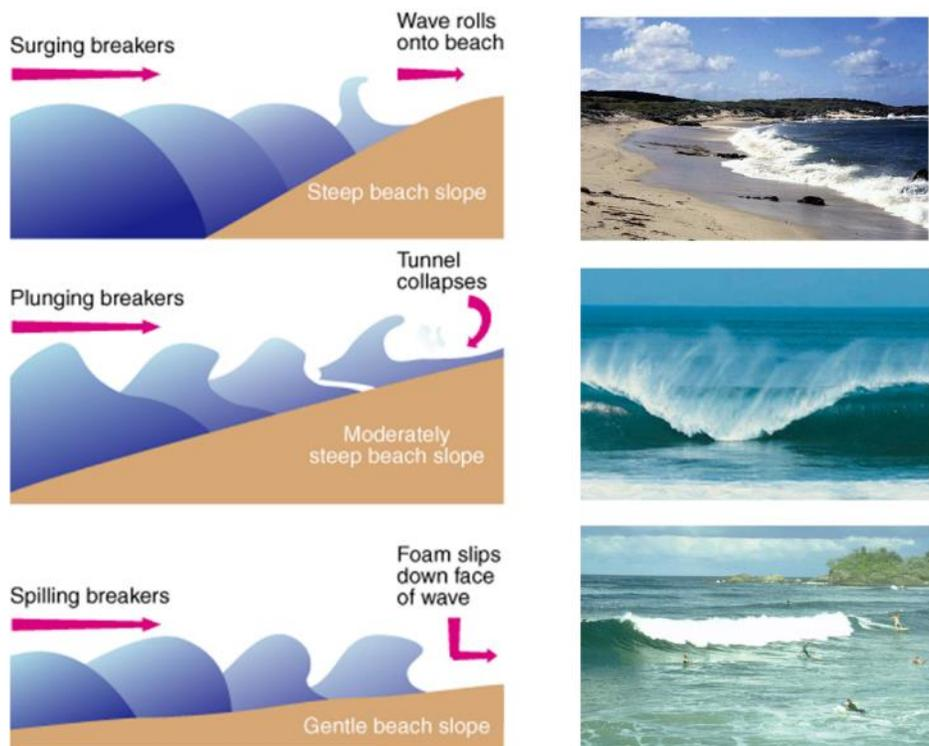

Figure 14. Schematic and associated image of different breaker types related to beach slope.
1) It helps govern the type of breaking wave through variations in wave shoaling (where the term shoaling refers to a change in wave height with water depth). Figure 14 shows a schematic and examples of the different types of breakers one may expect on different sloped beaches. Surging breakers occur on steep beaches and/or small amplitude long period waves. The wave does not break per se but rolls onto the beach. Plunging breakers occur on more moderately sloped beaches. Spilling breakers occur on gently sloping beaches with breaking beginning at the crest of the wave and tumbling down the wave face.